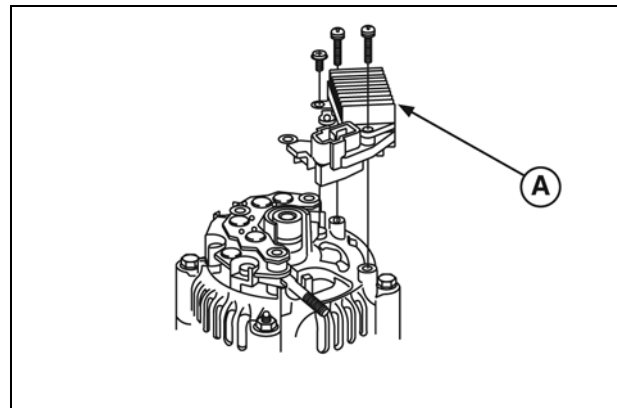

Figure 23
- Remove stator lead screws from rectifier (A, Figure 23).
- Carefully straighten stator leads (B) and remove rectifier.